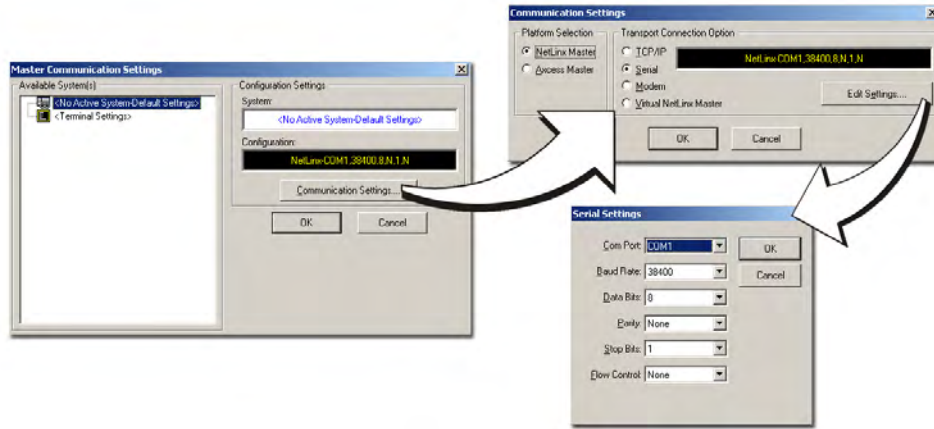

FIG. 23 Assigning Communication Settings and Baud Rates
2. Select **Settings > Master Communication Settings**, from the Main menu, to open the Master Communication Settings dialog (FIG. 23).
3. Click the **Communications Settings** button to open the Communications Settings dialog (FIG. 23).
6. Click the **Edit Settings** button to open the Serial Settings dialog (FIG. 23).